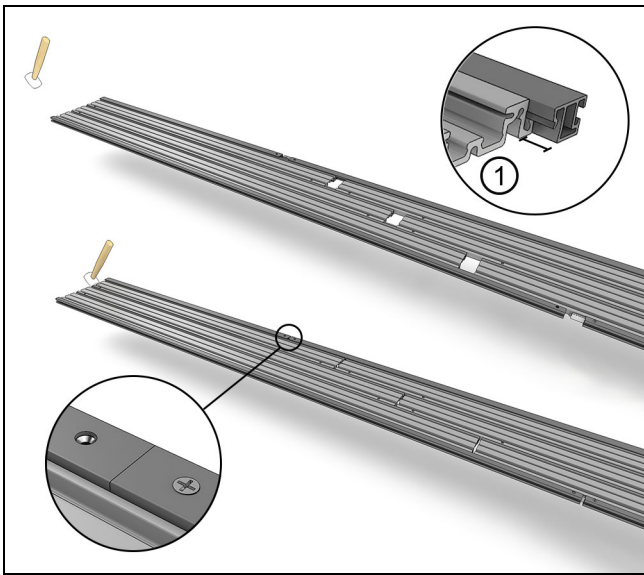

Figure 21
6. Tap the two sections together until the splice joint is tight and the end of the tracks are flush. The sill liners will sit 1/2" (13) beyond the tracks on each side of the sill. See Figure 21.